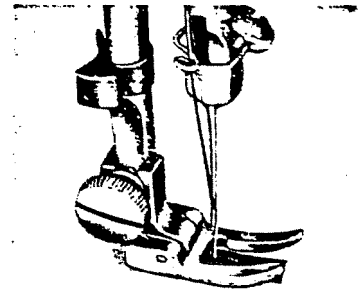

Fig. 25
1. Replace presser foot with buttonhole foot which is grooved deeply underneath to prevent piling of the threads. (See Fig. 25).